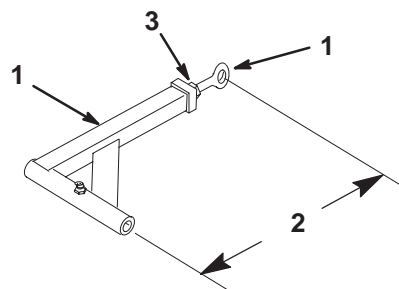

Figure 66
11. If the fixed idler contacts the end of the adjustment slot and more belt tension is required, a small change to lengthen the push arms can be made (Fig. 66).
12. To adjust push arms, loosen jam nut and rotate ball joint counterclockwise, one turn at a time. Adjust each side the same amount (Fig. 66).